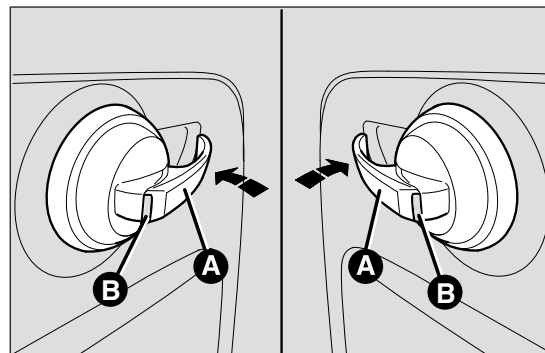

fig. 49
**To unlock from inside** (door and tailgate locks) pull handle A fig. 49.
The correct lever position with locked doors is shown by the red symbol B fig. 49 visible on the handles.